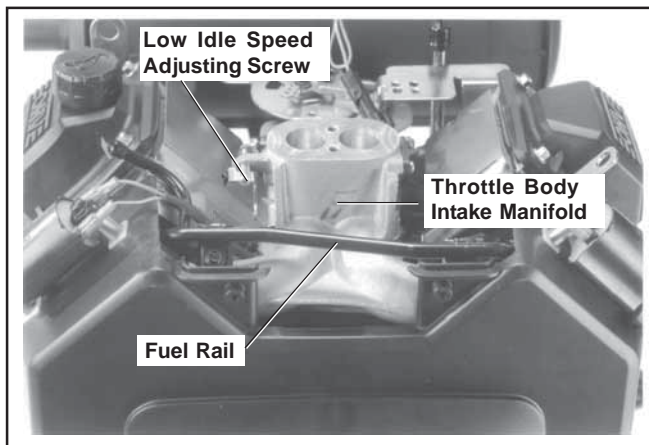

Figure 20. EFI Throttle Body Manifold.
3. Turn the low idle speed adjusting screw in or out and check RPM with a tachometer. See Figure 20.